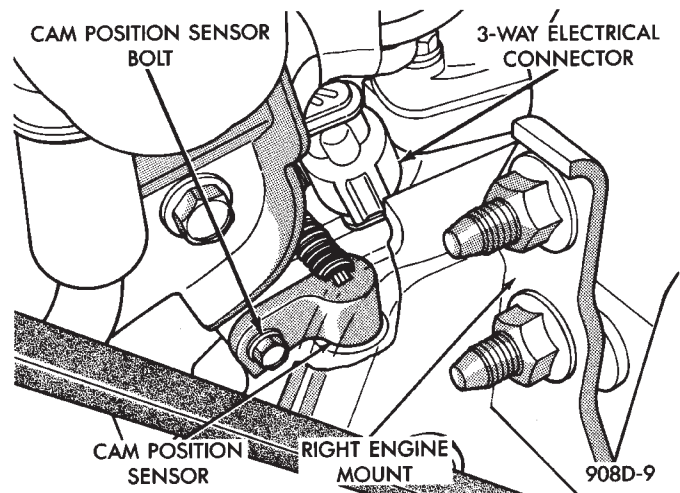

Fig. 25 Camshaft Sensor
- (1) Disconnect camshaft reference sensor electrical connector from the wiring harness connector (Fig. 25).
- (2) Loosen camshaft timing sensor retaining bolt enough to allow slot in sensor to slide past the bolt.